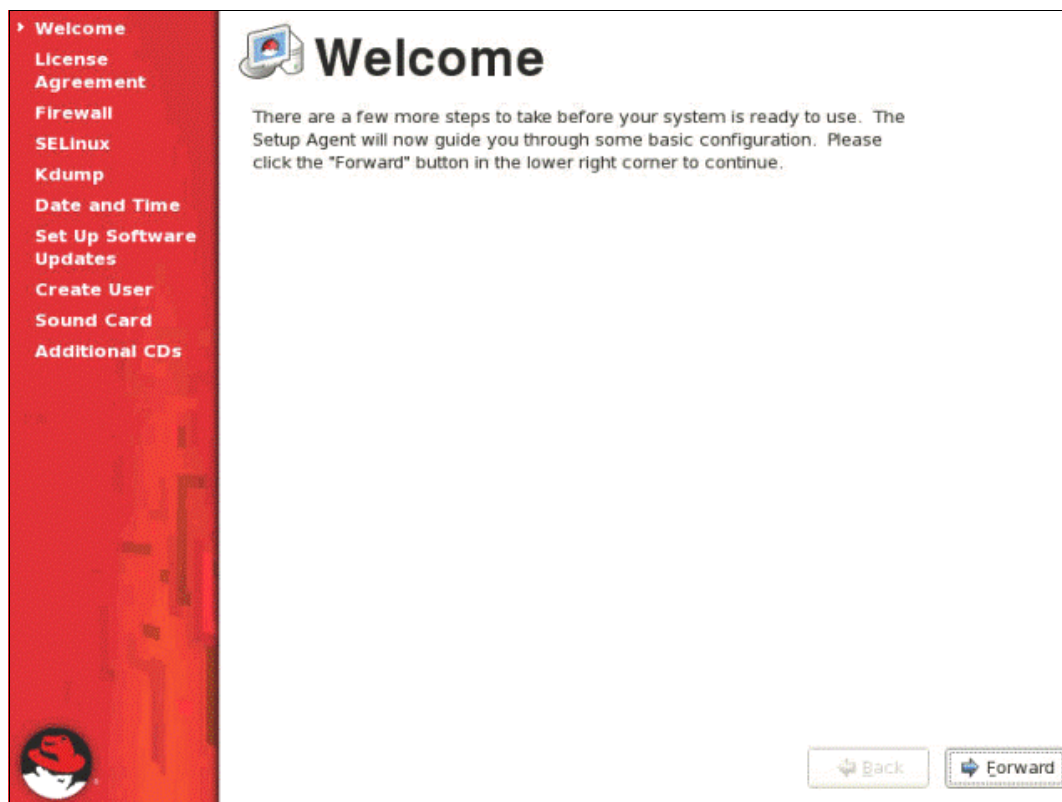

Figure 5-120 Welcome panel
14. The server will boot off of the SAN. You can proceed configuring the rest of OS installation steps, as shown in Figure 5-120.